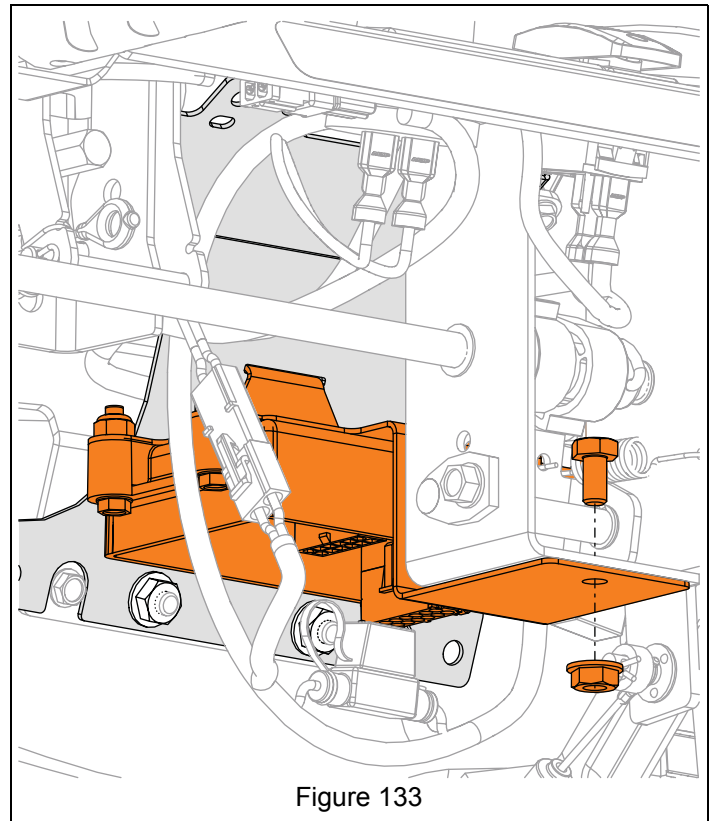

Figure 133
1. Position battery in battery bracket and secure with two cable ties. See Figure 133.